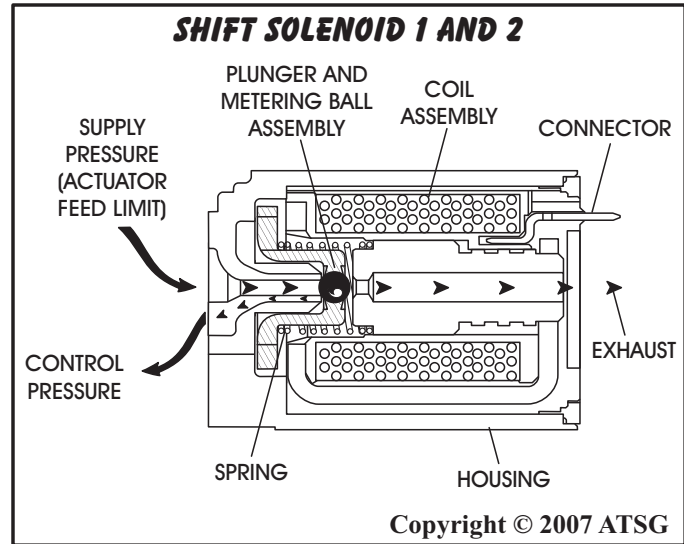

Figure 10
When the TCM provides a path to ground for the electrical circuit to energize (Turn ON) the solenoid, current flows through the coil assembly in the solenoid and creates a magnetic field. The magnetic field moves the plunger and metering ball assembly to the right, as shown in Figure 10, against the exhaust seat, thereby blocking the exhaust passage and creating solenoid control pressure.
Shift solenoids are de-energized (Turned OFF) when the TCM opens the path to ground for the solenoid's electrical circuit. With the solenoid OFF, solenoid spring force moves the plunger and metering ball assembly to the left, as shown in Figure 10, away from the exhaust seat and against the feed seat. This blocks actuator feed limit fluid from entering the solenoid and allows any existing solenoid control pressure to exhaust through the solenoid.
Actuator feed limit fluid feeds the shift solenoid 1 fluid circuit to control clutch select valve 2. When shift solenoid 1 is energized (ON), actuator feed limit fluid is allowed to pass through the solenoid, thereby creating solenoid 1 control pressure, as shown in Figure 10. Solenoid 1 control pressure acts against clutch select valve 2 spring force, to move the valve to the apply position.
When shift solenoid 1 is de-energized (OFF), actuator feed limit fluid is blocked from feeding the solenoid 1 circuit, and any existing solenoid 1 control pressure exhausts through the solenoid, as shown in Figure 10.
Actuator feed limit fluid feeds the shift solenoid 2 fluid circuit to control clutch select valve 3. When shift solenoid 1 is energized (ON), actuator feed limit fluid is allowed to pass through the solenoid, thereby creating solenoid 2 control pressure, as shown in Figure 10. Solenoid 2 control pressure acts against clutch select valve 3 spring force, to move the valve to the apply position.
When shift solenoid 2 is de-energized (OFF), actuator feed limit fluid is blocked from feeding the solenoid 2 circuit, and any existing solenoid 2 control pressure exhausts through the solenoid, as shown in Figure 10.